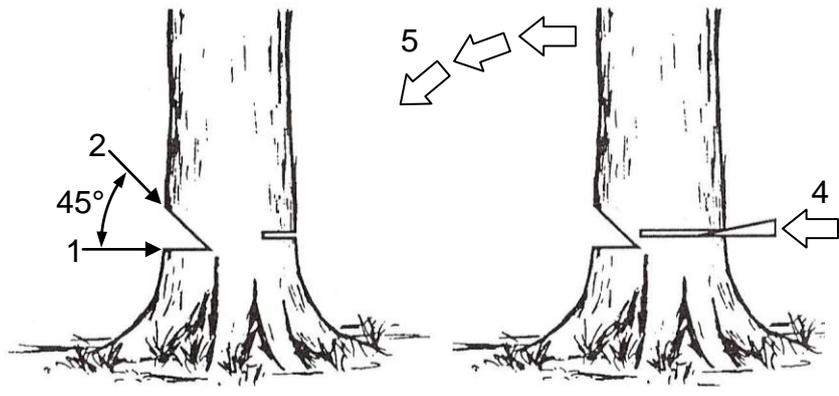
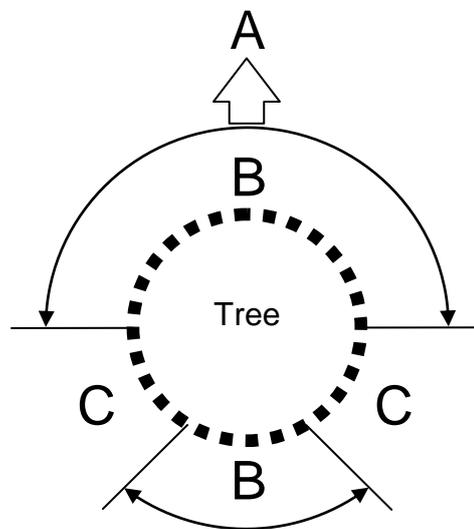

Figure 18
Figure 21
### **FELLING A TREE (Fig. 18 & Fig. 21)**
- Ensure that there is an escape path as shown in figure 21.
- First determine in which direction the tree is to be felled. Decide by considering the wind, lean of the tree, location of heavy branches, ease of job after felling and other factors. The felling notch is cut on this side of the trunk (Fig.18 No.1&2).
- First cut 1/3 of the trunk diameter horizontally into the tree at the intended felling notch (Fig.18 No.1).
- Now cut the second part of the felling notch from above at an angle of 45 degrees to the first cut (Fig.18 No.2).
- Now make the felling cut exactly opposite to the felling notch. The felling cut must run horizontal and at a level slightly higher than the bottom of the felling notch (Fig.18 No.3).
- Put wedges into the felling cut to bring the tree to fall (Fig.18 No.4). Note the felling direction of the tree (Fig.18 No.5).